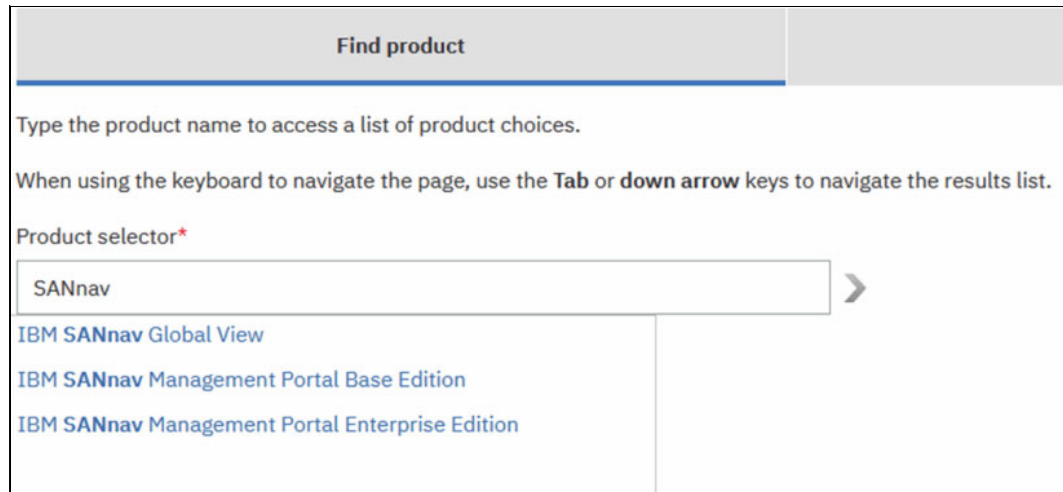

Figure 9-2 Find product
2. Search for “SANnav” and select the version that you want to download (Figure 9-2).